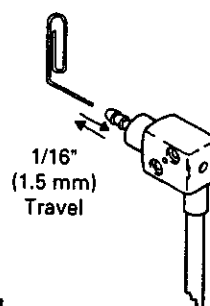

Figure 11
If the valve will not actuate, even with higher pressures, it may be necessary to manually open the valve, as shown in Figure 11.
6. Using a paper clip, install one end into the "air side", pressing on the internal piston (Figure 11). This may free up the piston if it is stuck. The piston will move approximately 1/16" (1.5 mm). If you can't move the piston, it will be necessary to soak the valve in warm soapy water to remove the internal contamination causing the valve to stick.
Internal contamination may also cause the activator valve to remain open when the gun is not triggered. To correct, try increasing air pressure and activator flow. The higher air pressure may open the internal valve spool more, allowing any debris to dislodge. The additional activator flow may help "wash" out the debris. If this doesn't work, remove the valve, soaking in water/soap. Then try activating with paperclip as shown in Figure 11. If a problem continues, valve disassembly will be required. See above.